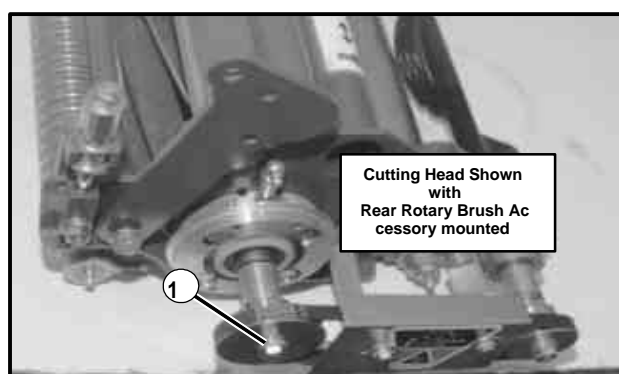

Figure 13
- NEVER** rotate the cutting reel by pushing it with your hands or fingers. Fingers can become caught between the reel and the frame resulting in serious injury. Use a ratchet with a  $\frac{9}{16}$ " socket on the end of the cutting head shaft to rotate the reel during adjustment and testing (See Fig. 13).